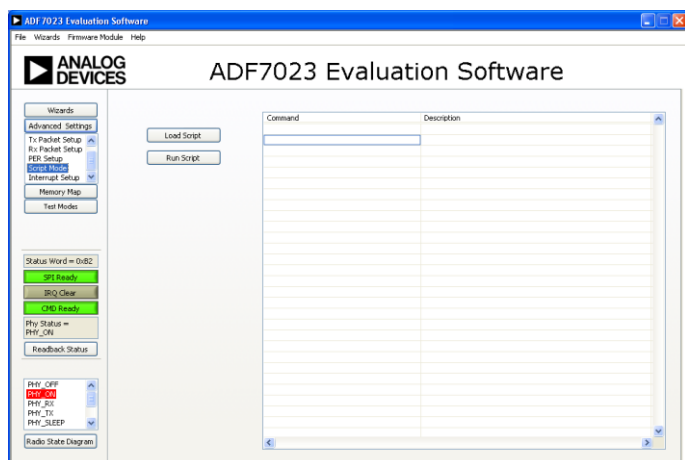

Figure 33
1. Click on the “Advanced Settings” button, and navigate to the “Script Mode” option. Once this is selected the Script Mode screen will appear as in *(Figure 33)*